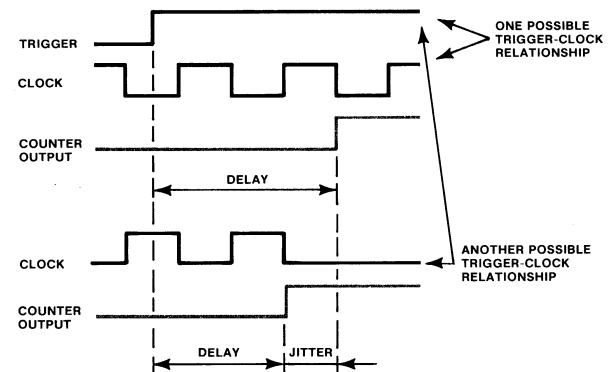

Fig. 1. Diagram illustrating why jitter occurs in a digital delay system when the clock is not triggered from the signal.
**Fig. 1.** The TEKTRONIX 475 provides analog sweep delay using a calibrated ten-turn potentiometer. On some scopes this control is called the DELAY TIME MULTIPLIER. The number of dial divisions between the start and the end of delay is multiplied by the TIME/DIV setting, to compute delay.
Figure 1 shows how jitter originates in a simple clock and counter delay system where the clock is not triggered from the signal. Total delay time can vary as much as one clock period because there is a random interval between the trigger and the first clock transition counted. This random interval causes jitter. One way to minimize jitter is to select a high clock frequency. But this requires a fast counter in addition to the fast clock, and is expensive.
If your IC's plug-in you can unplug any one, bend one of its pins out of the way of the socket, replace it and try again. To do this you should always use a pair of long-nose pliers and bend the pin right at the point where it comes out of the package. You will only need to bend it about 45° to clear the socket. See figure 1.
**Fig. 1.** When IC's are plugged into sockets you may isolate any lead by temporarily unplugging the IC and unbending the lead about 45° at the same region it was originally bent.